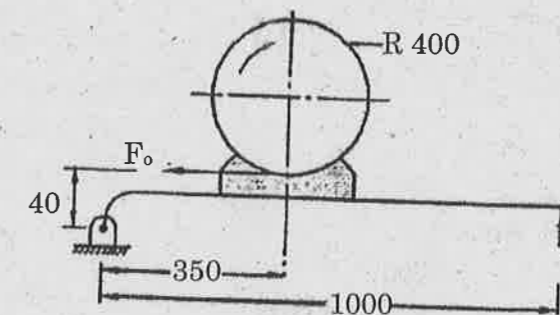

Fig. 15(b)
- (b) A 400 mm radius brake drum contacts a single shoe as shown in fig. 15(b) and sustains 200 N-m torque at 500 rpm. For a coefficient of friction 0.25, determine (i) Normal force on the shoe (ii) Required force F to apply the brake for clockwise rotation (iii) Required force F to apply the brake for counter clockwise rotation (iv) The dimension c required to make the brake self-locking, assuming other dimensions remain same (v) Heat generated.